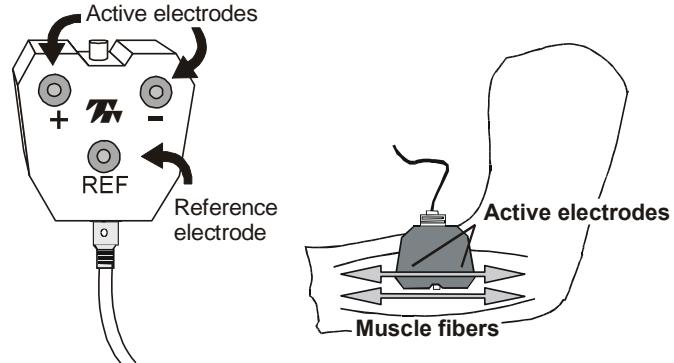

Fig. 4 Sensor Placement
**Sensor placement:** Generally, the sensor is placed on a muscle site so the two active electrodes are positioned parallel to the muscle fibers (i.e. placed in line with them). (See figure 4)